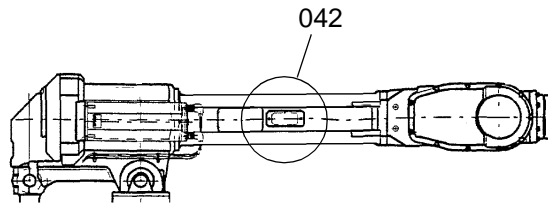

Figure 10 Connection of signals on the upper arm.
- 218-6** Integrated hose for compressed air. There is an inlet at the base and an outlet on the upper arm (see Figure 10). Connections: R1/2”.